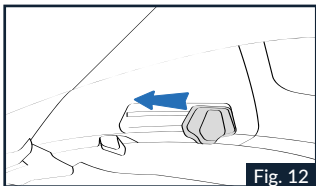

Fig. 12
1.1 To activate the VPS, move the slider as in Fig.12 until you hear a click that means that the VPS is in the desired position. The VPS is adjustable in a range of intermediate positions to ensure the best comfort for the user with respect to the terms of use.
3.1. Open the helmet chin guard and lower the VPS completely (see instructions above) (Fig.12).
4.1 Open the helmet chin guard and move the side slider until it stops (see instructions above) (Fig.12).